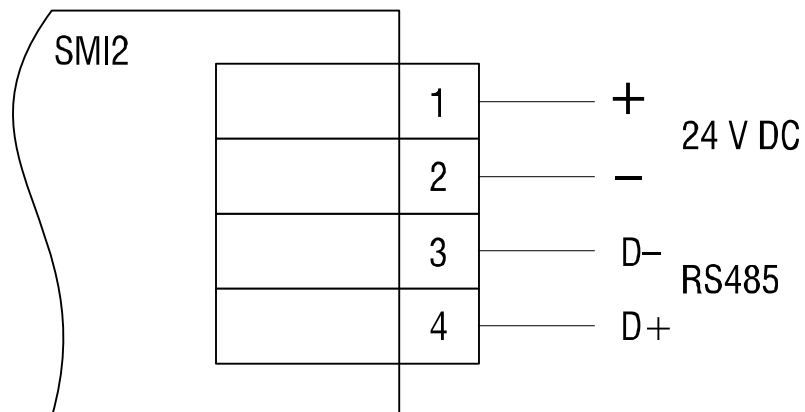

Fig. B1
- Connect the display to the 24 V DC power supply and to the RS485 terminals of the converter according to Fig. B1